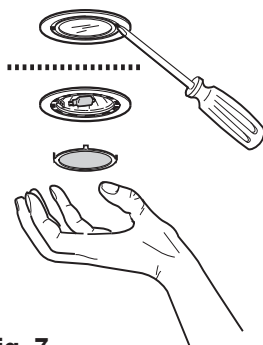

Fig. 7
- Remove the lamp cover carefully, use a screw driver as a lever. **Fig. 7.**